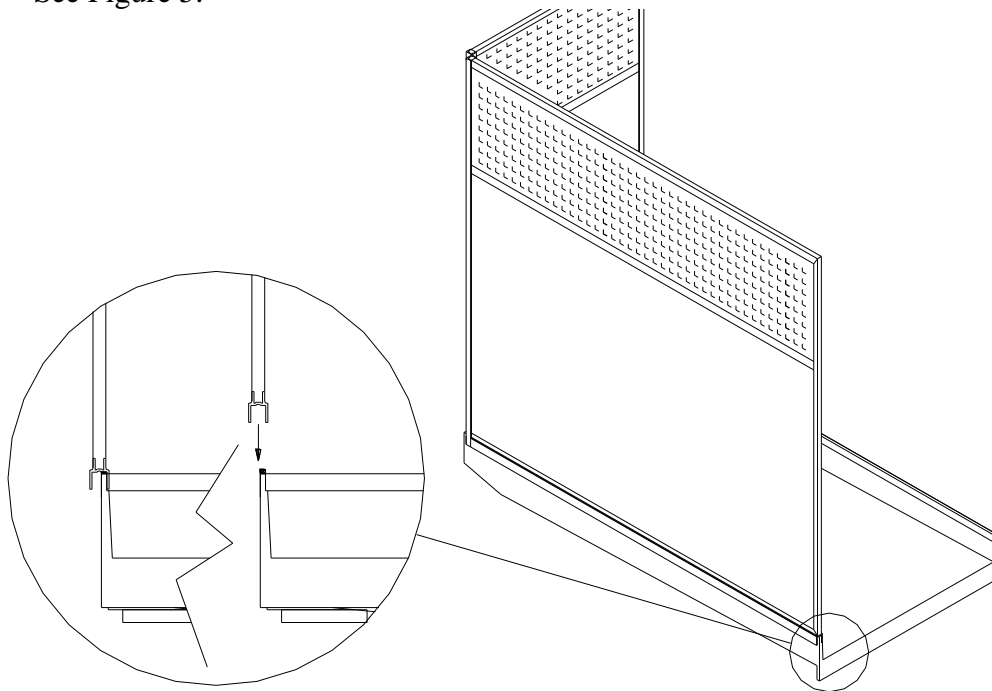

**Figure 4.**
1. Level the system such that **ALL** of the units are level along their top edges and are **ALL** at the same height on their edges, using the leveling screws installed in Step 1. See Figure 4.